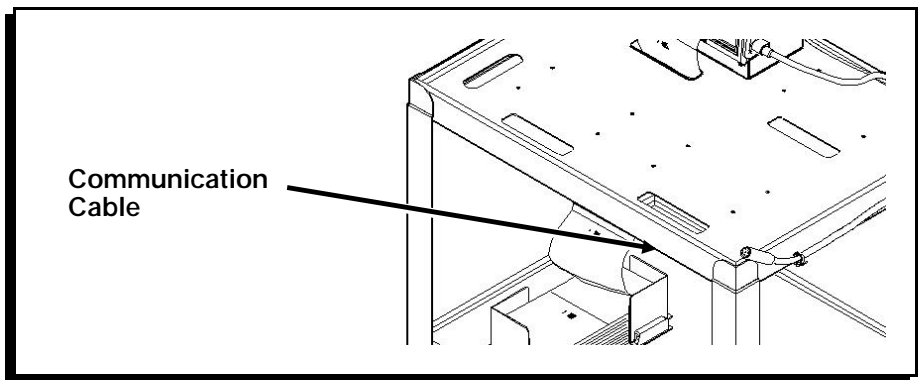

Figure 37
1. Connect your data collection unit to the Station's communication cable. (Figure 37.) This communication cable serves all printers on the Station.